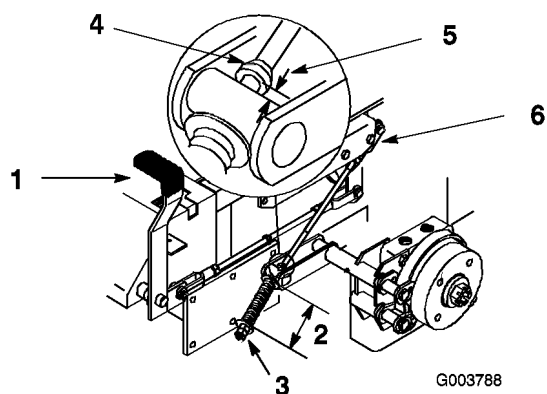

Figure 52
The measurement should be 2-3/4 inch (70 mm) between washers (Figure 52).
3. If adjustment is necessary, loosen the jam nut below the spring and tighten the nut directly below the yoke (Figure 52). Turn the nut until the correct measurement is obtained. Tighten the two nuts together and repeat on opposite side of unit.
The measurement should be 3/16-1/4 inch (5-7 mm) (Figure 52).
7. If adjustment is necessary, loosen the jam nut directly below the yoke. Turn the bottom rod until the correct measurement is obtained (Figure 52). Tighten jam nut at yoke